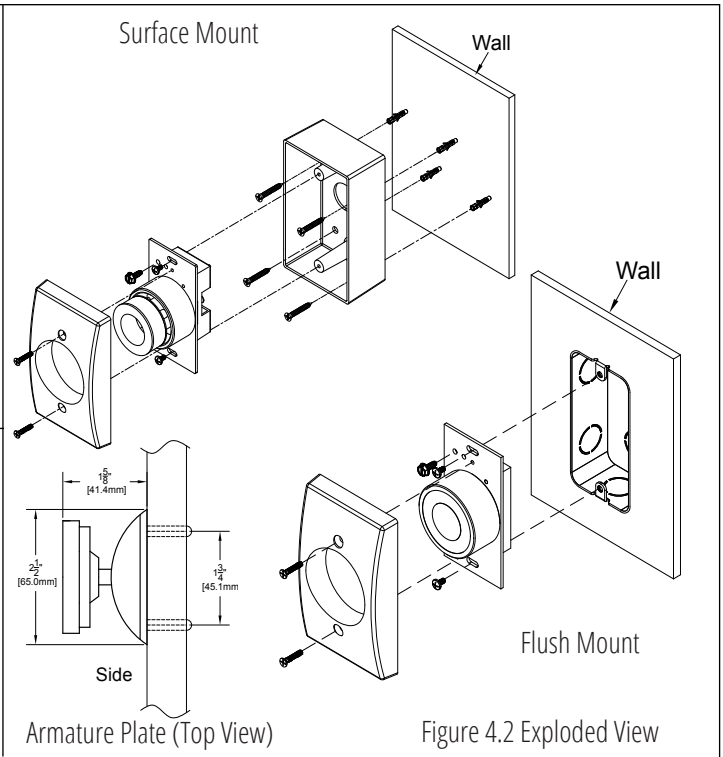

Figure 4.2 Exploded View
- Connect the wires according to the wiring diagram shown in figure 4.2.
- Connect the wires according to the wiring diagram as shown in Figure 4.2.
13. Mark the location of armature on the door, making sure it lines up with the door holder (extensions are available if needed.) (See Figure 4.2).